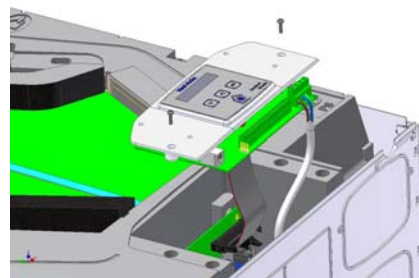

Figure 5: Detaching the Control Panel (Front of Unit)
3. Remove the 2 screws and detach the Control Panel and disconnect mains lead. (see Figure 5).